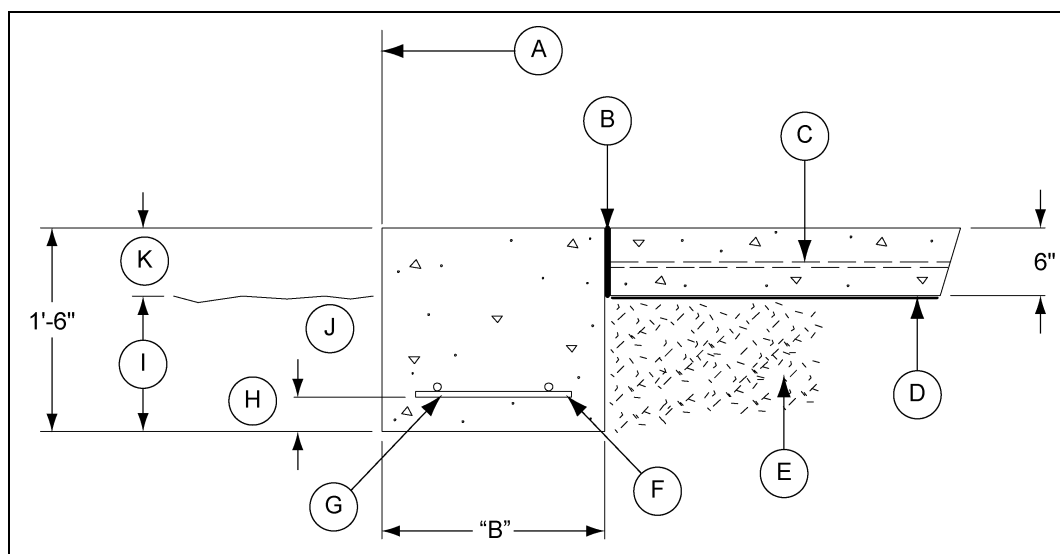

Figure 4AC Frost Free Foundation
6. All material used for backfill inside the ring wall should be clean, well graded, crushed rock or a sand and gravel mixture. Backfill should be placed in 6" lifts, 95% compaction. (See Figure 4AC.)